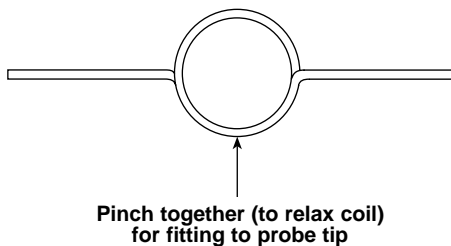

Fig. 11
2. Remove probe (if installed) and fit a pair of checking wires to the end of the probe tip, 90° relative to each other and a maximum 10 mm ($\frac{3}{8}$ ") from the tip end - see Figs. 11 and 12.